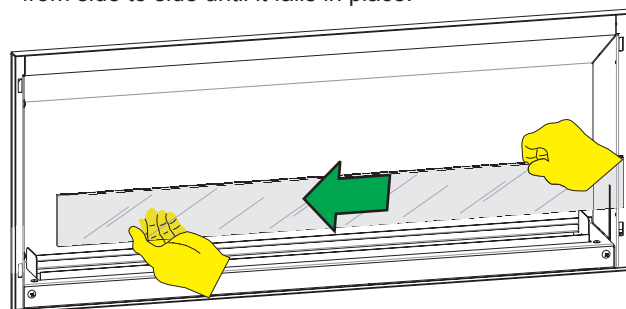

Figure 32
18. Install glass panel in front of burner as shown in **Figures 32 and 33**. Place one end into slot inside the fireplace as shown in **Figure 32**. Move other end of glass into fireplace opening and into slot on other side of fireplace. Move glass panel from side to side until it falls in place.